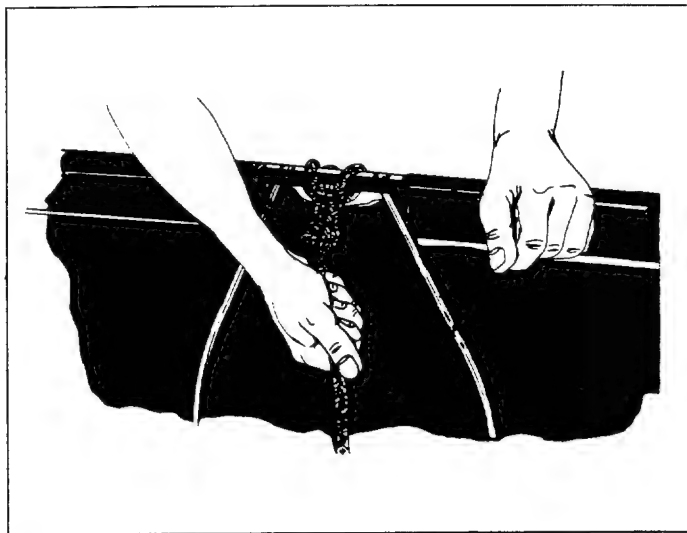

Fig. 26
16. Secure the rope to the center of hopper bag frame as shown in figure 26.